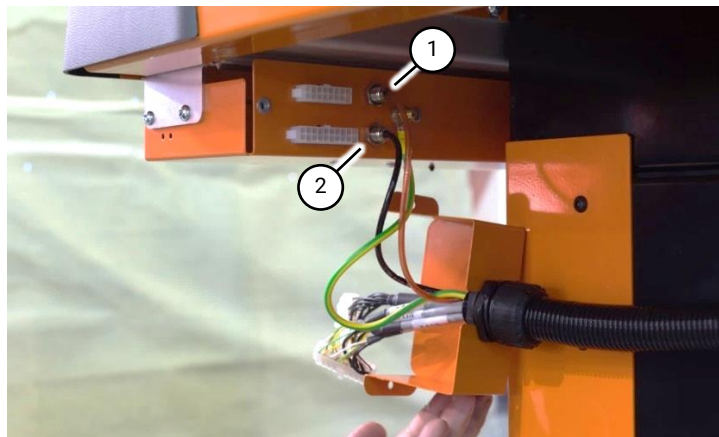

Fig 17 Air pipe connections
1.2 Connect the red air pipe to the top fitting (Fig 17 (1)) and the black air pipe to the bottom fitting (Fig 17 (2)).